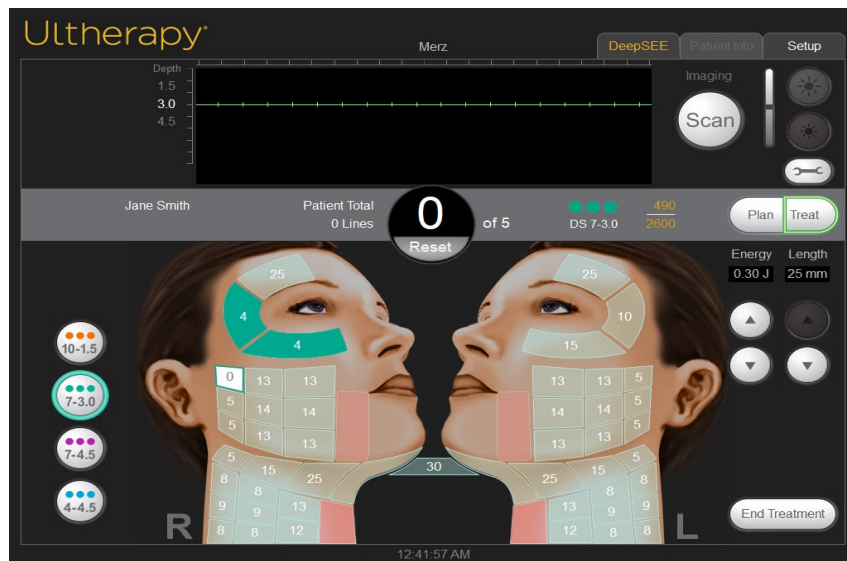

Figure 7.16, SPT™ Treat Mode
2. The user can increase or decrease the energy level by using the up and down arrows in the Energy toggle buttons on the right side of the screen throughout the treatment as shown in Figure 7.16. The treatment line count can be adjusted up or down by the user as deemed appropriate for the treatment session by returning to the Plan Mode (refer to section 7.3.8).